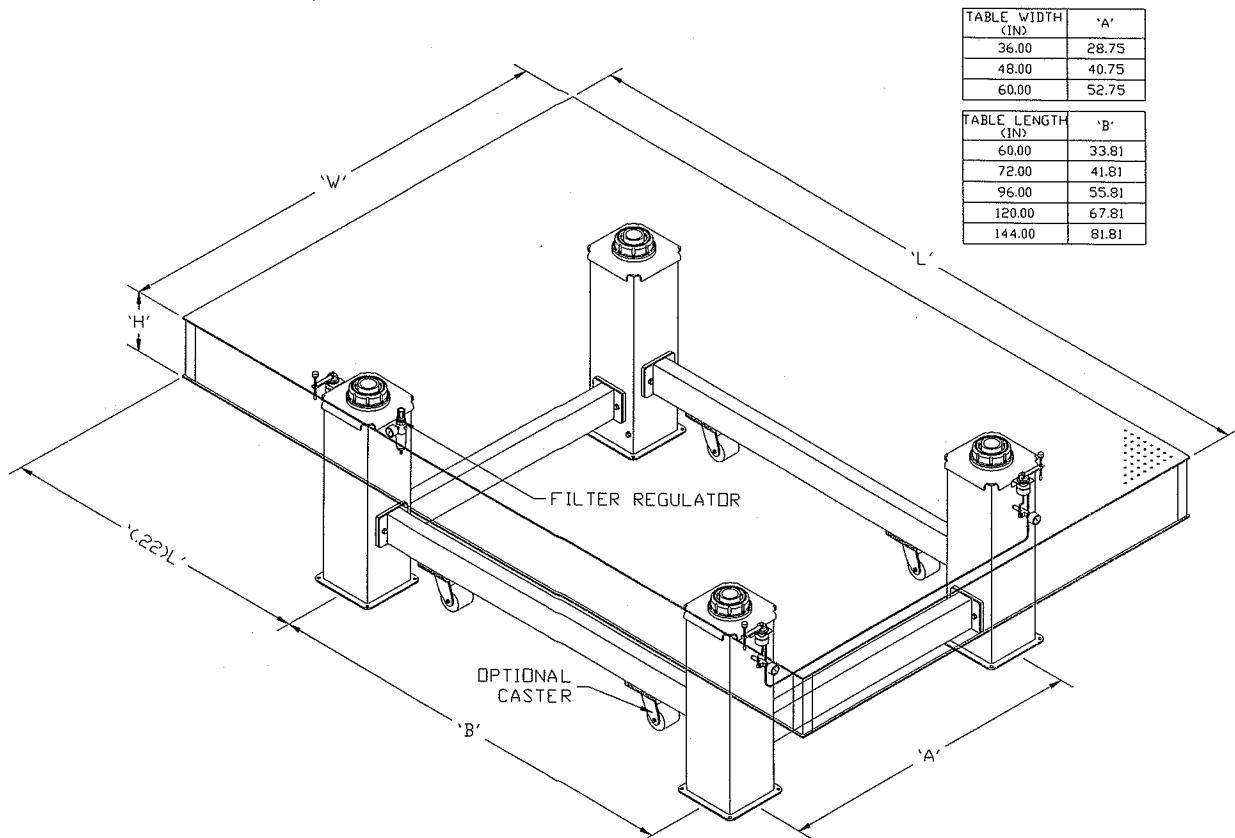

Figure 1. Outline view and placement of 500 Series Isolation Airmount Stand Location
Refer to Figure 1. for outline drawing of 500 Series Optical Table. All 500 Series Optical Table is fully completely assembled and tested at the factory.
5. Figure 1 and 2 shows the points at which your table should be supported in order to assure minimum bending due to the table's weight.